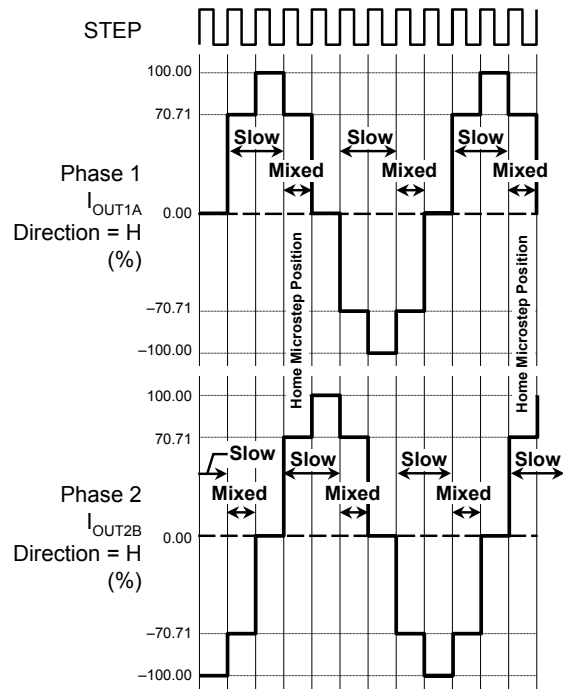

Figure 3. Decay Modes for Half-Step Increments
**Mixed Decay Operation.** The bridge can operate in Mixed Decay mode, depending on the step sequence, as shown in figures 3 through 5. As the trip point is reached, the A3984 initially goes into a fast decay mode for 31.25% of the off-time,  $t_{\text{OFF}}$ . After that, it switches to Slow Decay mode for the remainder of  $t_{\text{OFF}}$ .